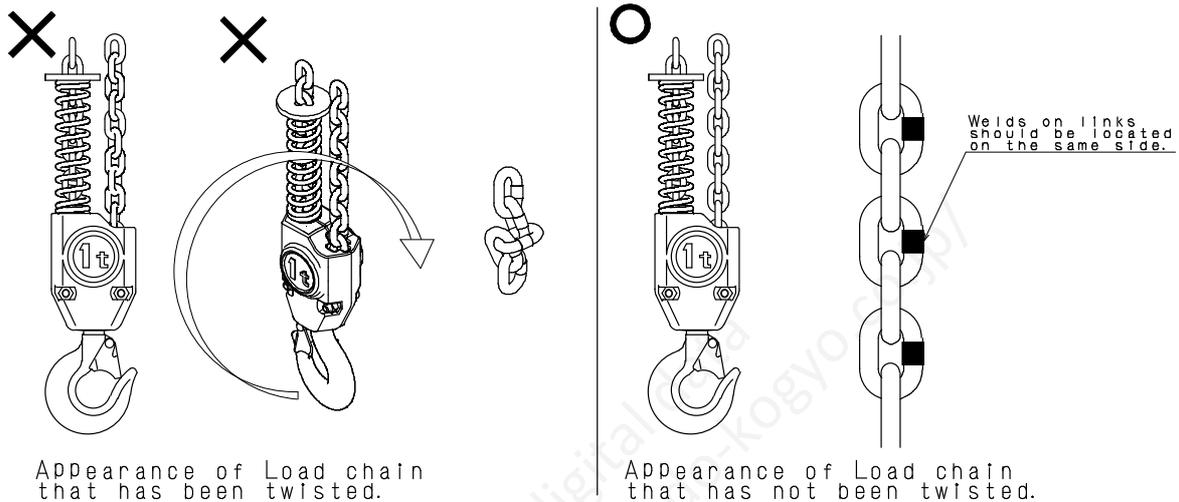

Fig.5
- When the air hose is connected to the hoist, pour about 10 drops of lubricant into the connecting port of the hoist. (See Chapter IX "1.(6) Recommended Lubricants".)
- In case of more than one chain fall, Bottom hook may sometimes be rotated between two chain falls. This causes Load chain to be twisted (See Fig. 5). Before operation, check for and correct any twisting of Load chain.